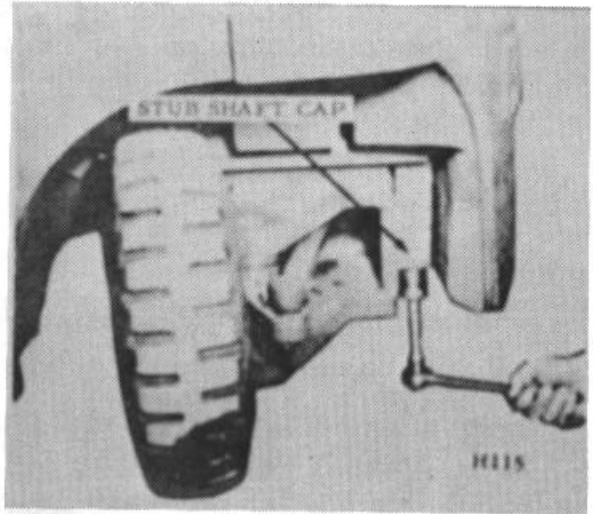

Figure 2.
3. Mark and remove front and rear stub shaft caps. (Fig. 2) Lower both jacks at the same time, until axle is clear of the frame. Then remove axle from either side of the truck.